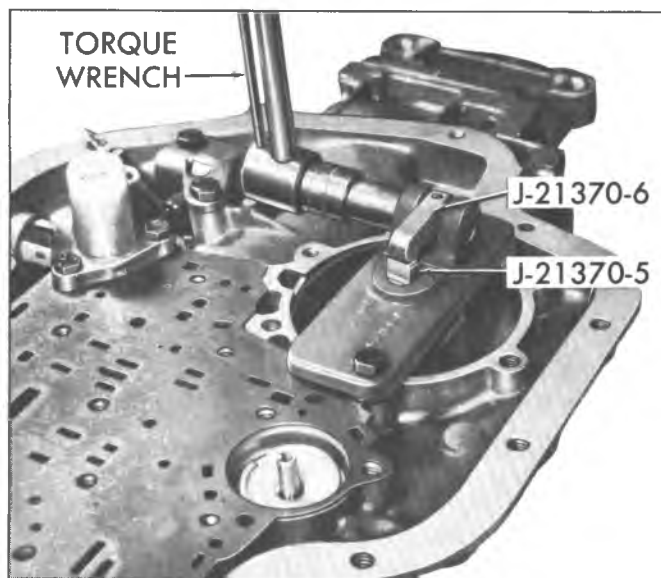

Fig. 146T--Checking Rear Band Pin
- I. Check rear servo band apply pin. (Fig. 146T).